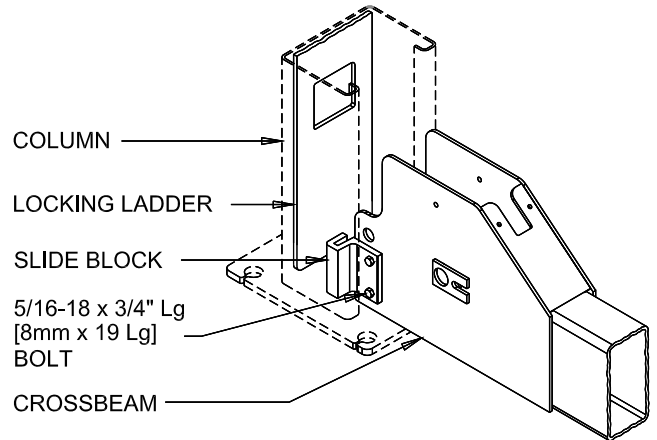

Fig 9 – Slide Block Installation
- 15) Slide power side column onto cross beam until the M8 threaded holes in the side of the beam are just exposed. Position slide blocks as shown in **Fig 9** and attach with M8 x 16mm lg. bolts (**apply thread locking compound before installing**).